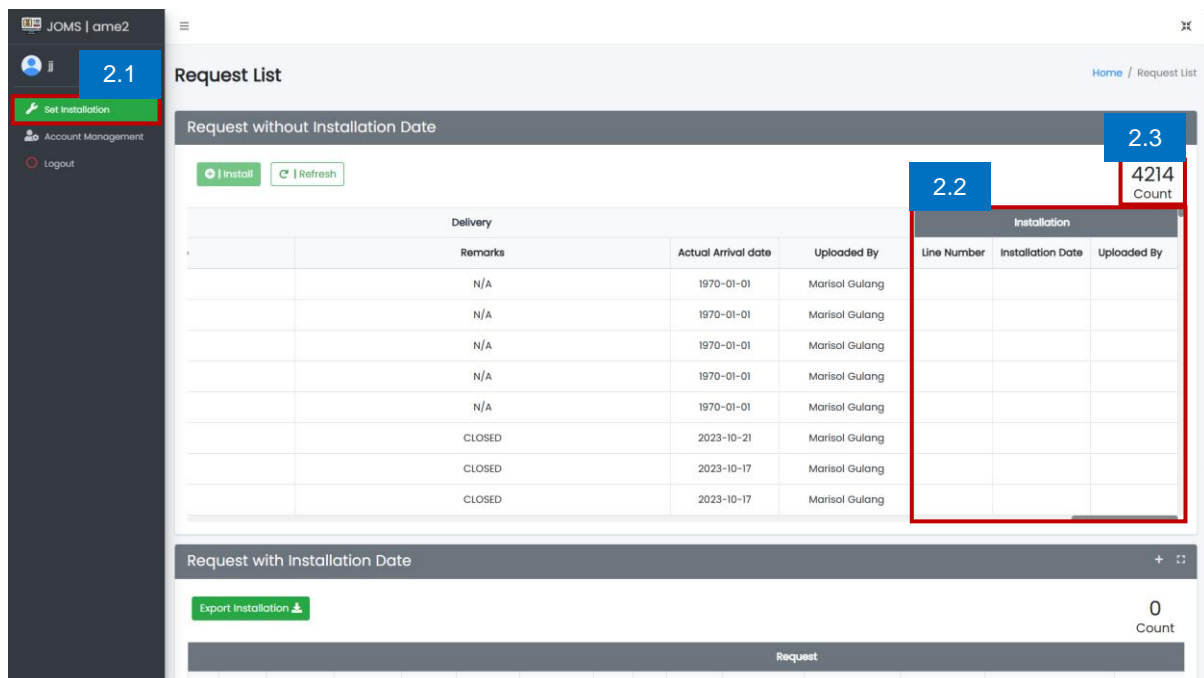

Figure 24. AME2 Set Installation Page
2.1 Click Set Installation button to access main form. (See Figure 24)
2.2 Viewer has no installation date and line number yet. (See Figure 24)
2.3 View the count of request without installation date and line number. (See Figure 24)